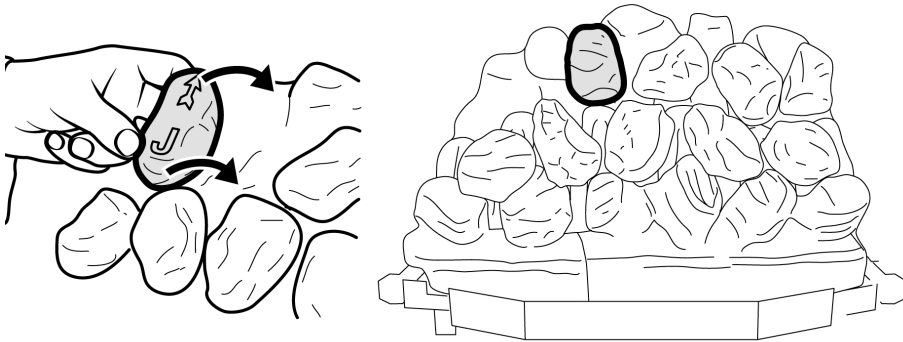

Figure 15. Third row "Coal J"
19. Hold coal 'J' upright with the arrow pointing to the top. Locate coal 'J' as shown in figure 15.